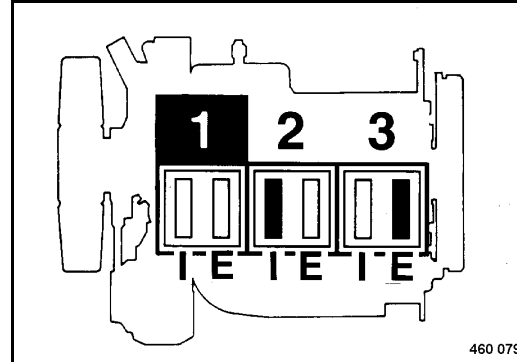

Fig. 162
Crankshaft position 1 (Fig. 162)
- Check the black valves (Fig. 162) on cylinders 1, 2 and 3, adjust if necessary.